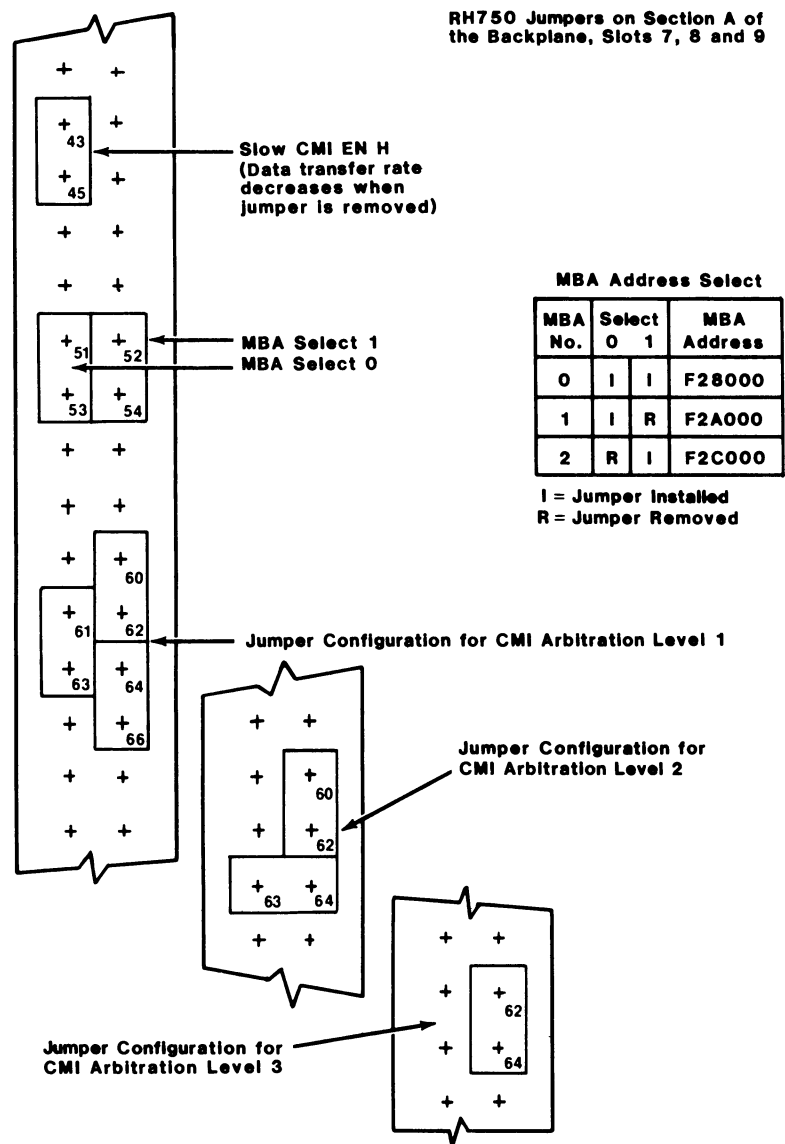

Figure 4-2. Backplane Jumpers for RH750
**4.4.1.2.2 RH750 MBA Backplane Reconfiguration.** To reconfigure the backplane of the slot in which the RH750 is installed, see Figure 4-2 and use the following procedure:
- c. If RH750 is to remain Bootstrap device (address F28000), place both MBA SELECT jumpers in same relative location on CPU backplane of new slot for RH750. If SC7000 Disk Controller is to be Bootstrap device, select either F2A000 or F2C000 as MBA address for RH750 (see table in Figure 4-2).
- d. Determine CMI ARB level assigned to original RH750 MBA installation (use record from step a and see Figure 4-2).
The Arbitration (Bus Priority) level is selected by DIP switches SW8-2 through SW8-6, as listed in Table 4-3. Each Massbus device must be assigned a unique arbitration level. If an RH750 is already installed in the system and the jumpers on the CPU backplane for that device have not been inspected to determine its arbitration level, do so now (see Figure 4-2). If the DEC FCO has been installed, select any Arbitration level that is not being used. If the DEC FCO has not been installed, select a higher Arbitration level (see subsection 4.4.1.2).